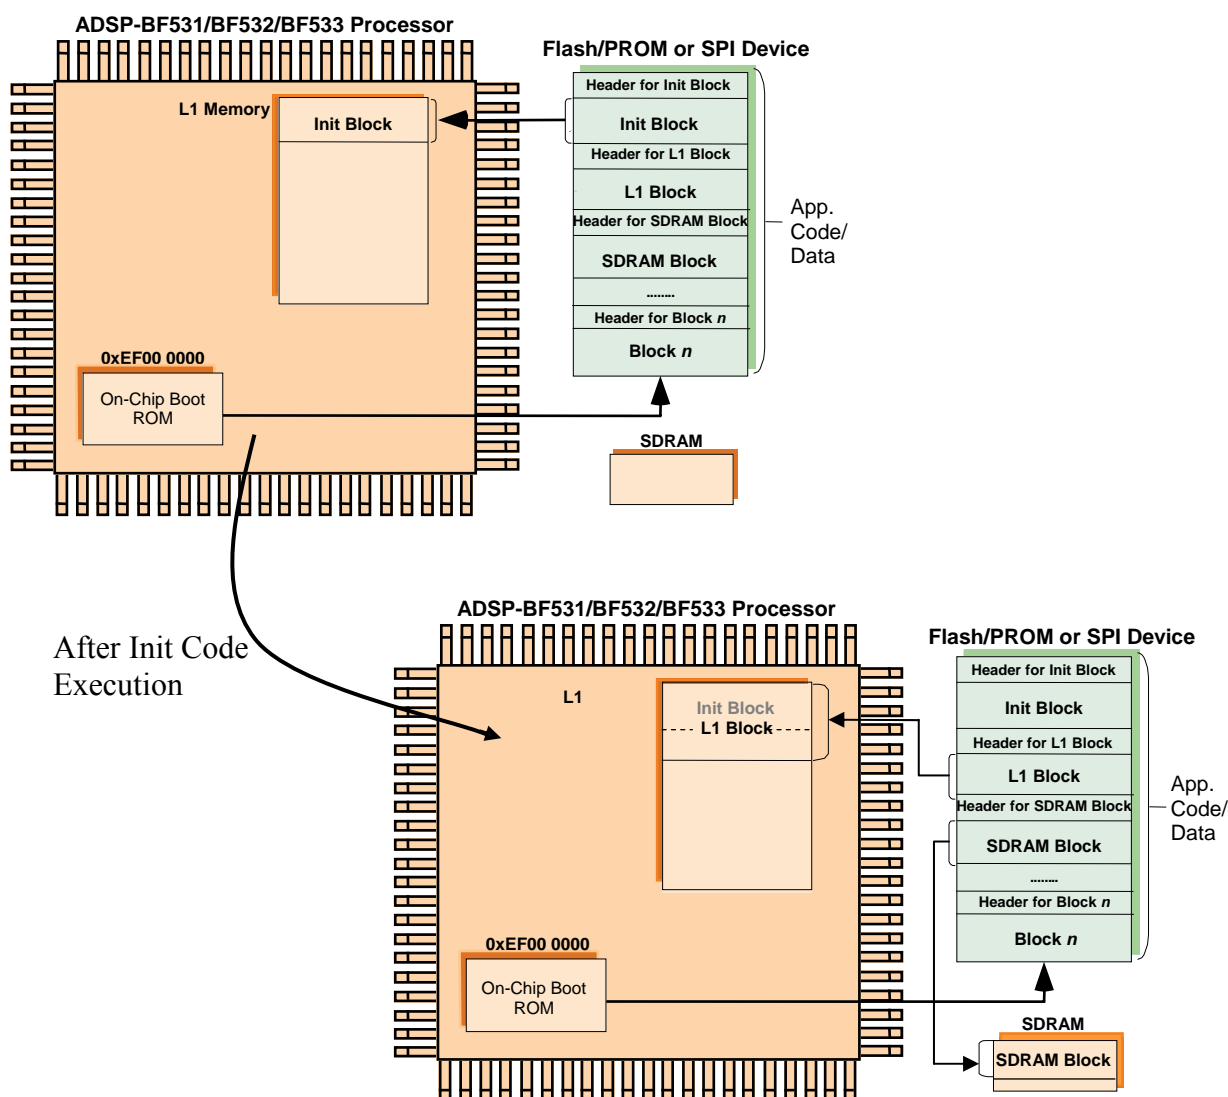

Figure 5. Initialization Code Execution / Boot
- **Bit 3: INIT** – An initialization block (Init Block) is a block of code that executes before the actual application code boots over it. When the on-chip boot ROM detects an Init Block, it boots the block into internal memory and makes a CALL to it (initialization code must have an RTS at the end). After the initialization code is executed, it is typically overwritten with application code. See Figure 5.